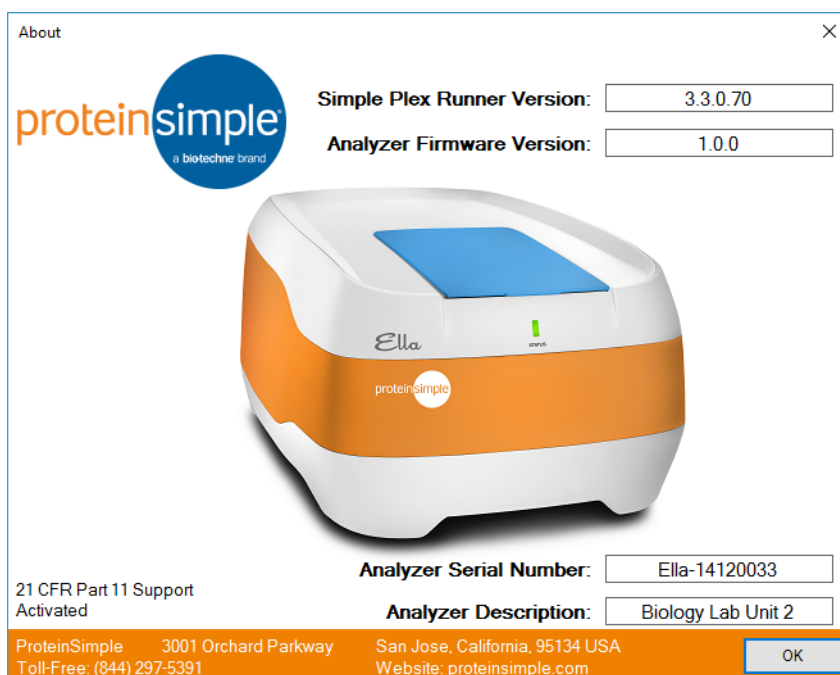

Figure 1-1: Simple Plex Runner About screen.
1. Click **Help > About**. The About screen will appear as shown in Figure 1-1.